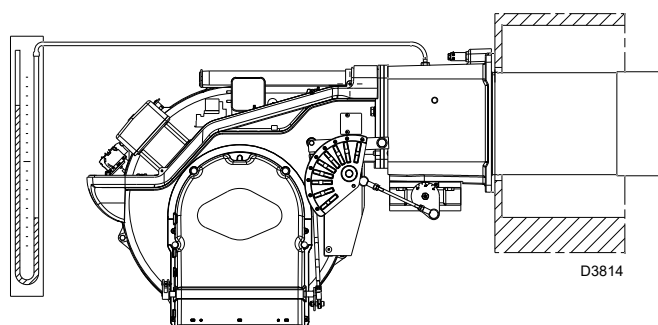

Fig. 27
- Fit a U-type pressure gauge or a differential pressure gauge (Fig. 27), with socket (+) on the gas pressure of the pipe coupling and (-) in the combustion chamber.
The arrival of gas to the sleeve is indicated by the U-type pressure gauge (Fig. 27 on page 24).
A rough indication can be obtained from Tab. G on page 21, just read the gas pressure on the "U" pressure gauge (see Fig. 27 on page 24) and follow the indications.